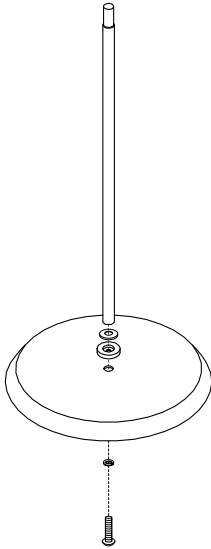

Figure 1
1. Remove bolt and lock washer from bottom post. Connect bottom post to base using bolt, lock washer, flat washer and collar. Tighten with large Allen wrench. (See Figure 1)